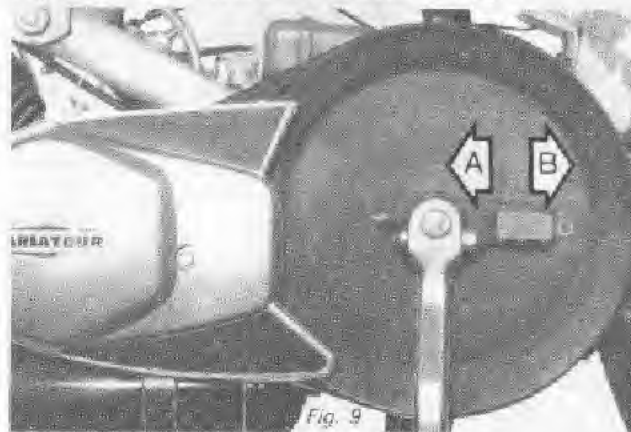

Fig. 9
Before starting, make sure that the engine drive knob on the large driven pulley is on the « B » position (see Fig. 9).
- Put the engine drive knob in the « B » position (Fig. 9, page 9)
- Put the ignition switch (5) on the RUN position
- Turn the throttle twist grip (3) slightly with your right hand
- Squeeze the choke (2) with your left hand
- With your right thumb squeeze completely the decompressor control lever (1).
- Starting with the left-hand pedal at its top position kick the pedal down sharply and release the decompressor lever (1) (right thumb) when the left-hand crank arm reaches the bottom.
- As soon as the engine engages, use the throttle (3) to give it some more gas.
- After the engine has run for a few seconds, release the choke (2).
- Stop the rear wheel from spinning simply by squeezing the left hand rear brake lever (4).
- Put the engine drive knob in the « B » position (Fig. 9, page 9).
- Put the ignition switch to its RUN (5) position and engage the throttle slightly
- Squeeze both the choke lever (2), and decompressor control lever (1)
- As soon as the engine is turning, release the decompressor control lever (1) (right thumb) and open the throttle more